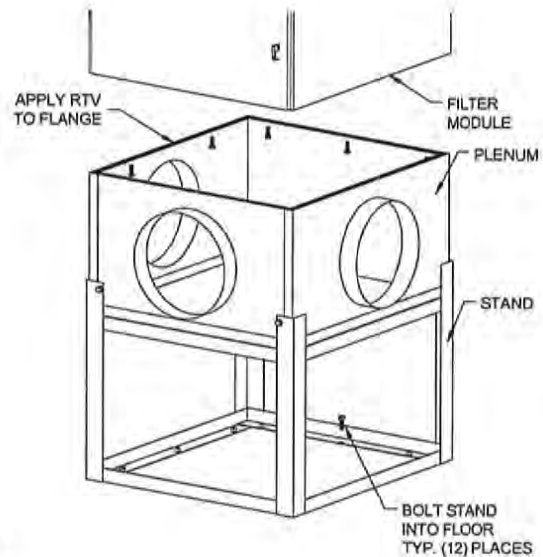

FIG. 1
2. Bolt the floor stand securely to the floor (see Figure 1).
Secure the unit to the plenum, using the provided 3/8" hardware. Seal with RTV sealant. (See FIG. 1.)